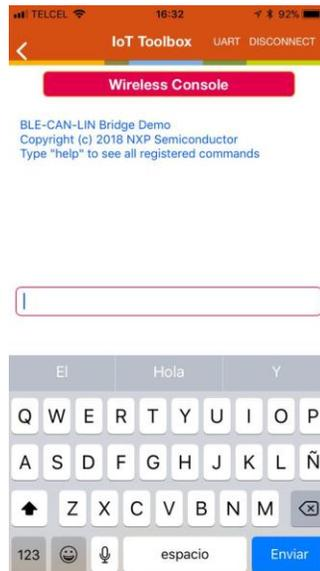

Figure 31. Welcome menu
- 4. Once connected, a welcome message is printed as shown in *Figure 31*.